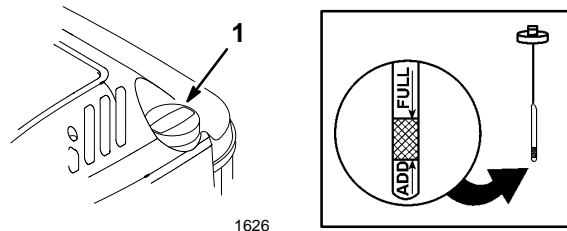

Figure 7
Before each use, ensure that the oil level is between the FULL and ADD marks on the dipstick (Fig. 7). Add oil if the level is low.
1. Position the mower on a level surface and clean around the dipstick (Fig. 7).
5. Remove the dipstick and check the level of the oil on the side of the dipstick with the FULL and ADD marks (Fig. 7).